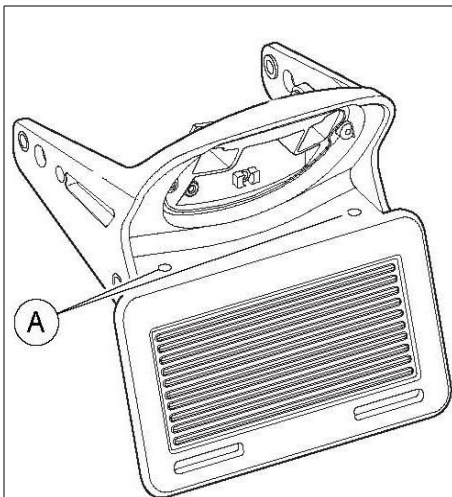

Figure 1
4. See Figure 1. Mark the position of the two rack mounting holes on the license bracket at points "A".